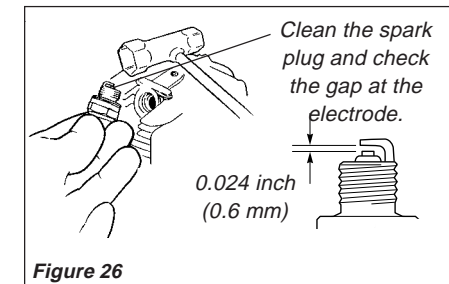

Figure 26
- Remove and clean the spark plug. See Figure 26. Adjust the spark plug electrode gap to 0.024-inch (0.6 mm). If the plug must be replaced, use only: Champion CJ8 or equivalent type spark plug of correct heat range.